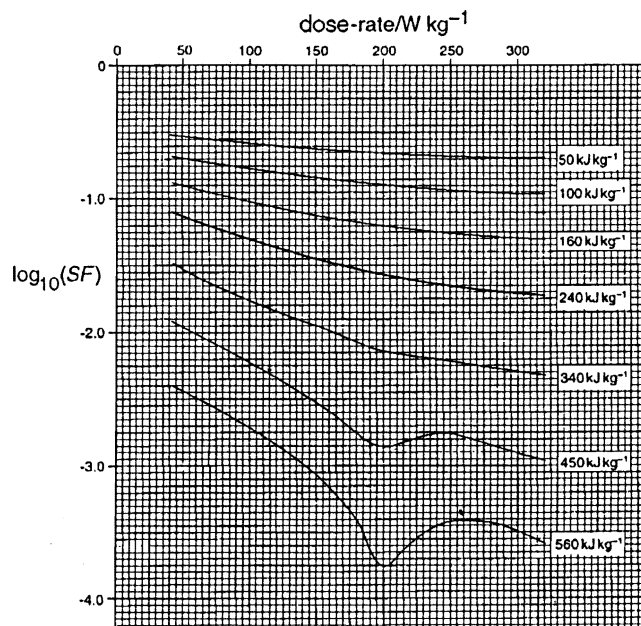

Fig. 28
- (b) Survival fraction depends not only on dose-rate but also on absorbed dose. Fig. 28 shows the variation with dose-rate of $\log_{10}(SF)$ for different values of absorbed dose.
- (ii) By reference to Fig. 28, complete the table of Fig. 29 for a dose-rate of 200 W kg^{-1} .
(i) Fig. 28,